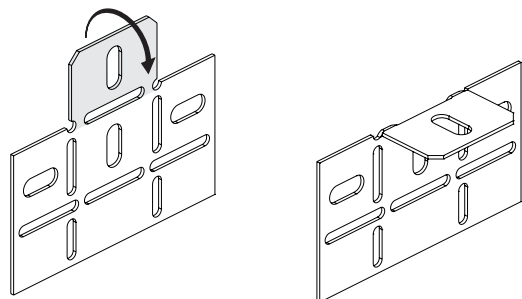

Figure 17
1. Prebend the brackets included with the kit as shown in Figure 17.